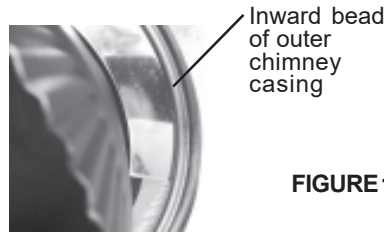

FIGURE 11e
4. Ensure the metal retainer overlaps the flange of the SPA stub and under the inward bead (figure 11e).